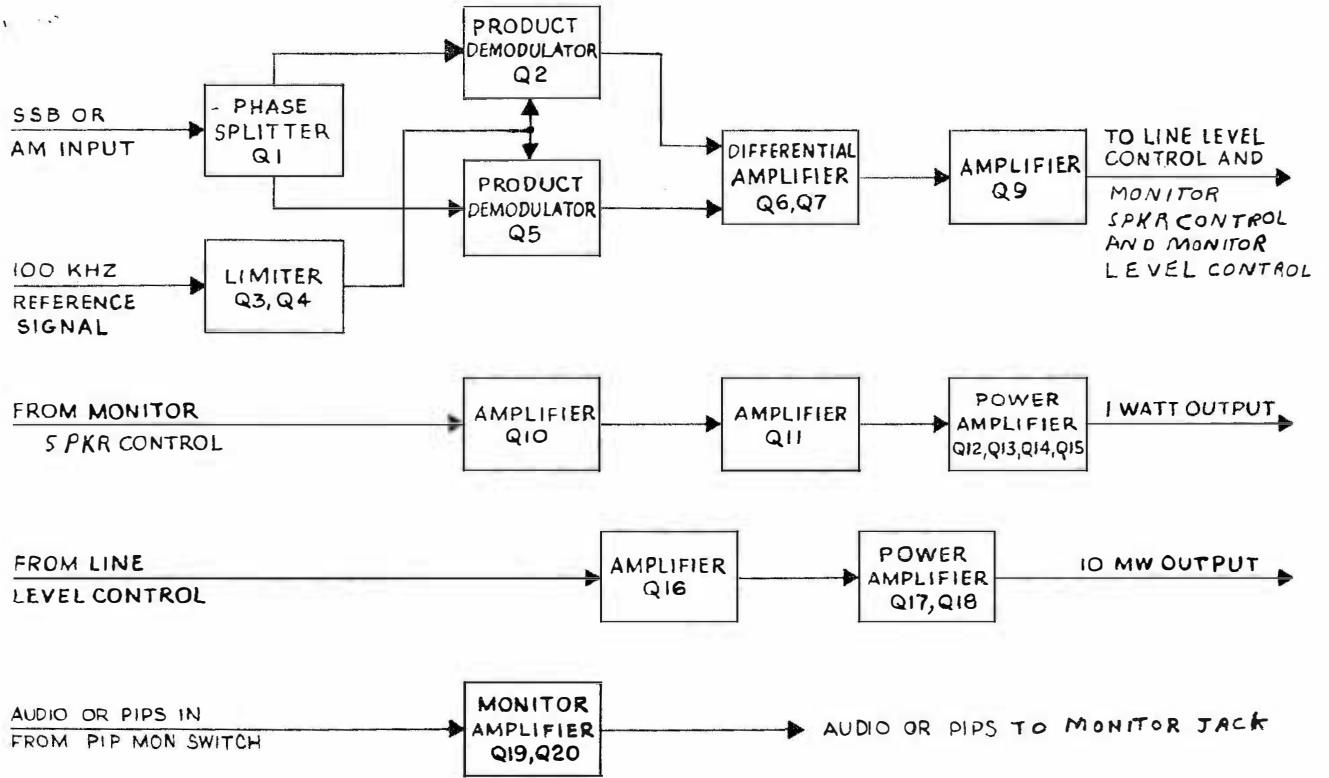

Figure 4-4. Channel B Audio Card Block Diagram
c. CHANNEL B AUDIO CARD (See Figure 4-4). - The Channel B audio card functions identically to the Channel A audio card, except for three differences noted in paragraphs 1-6. a, b, and c.